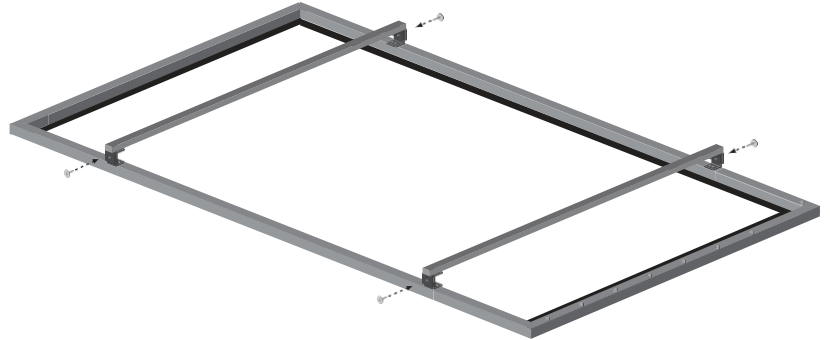

Figure 6: Temporarily Attaching Wall boards to the Frame
3. Bolt wall boards to brackets using the supplied 3/4" hex head bolts (see Figure 6).